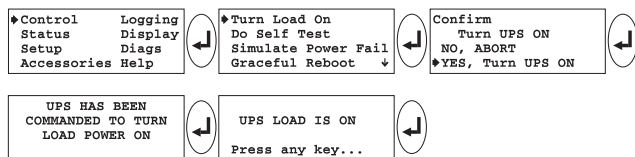

Fig 7-2 “Turn Load On” Command Sequence
1. Use the sequence in figure 7-2 to enter the “Turn Load On” command.